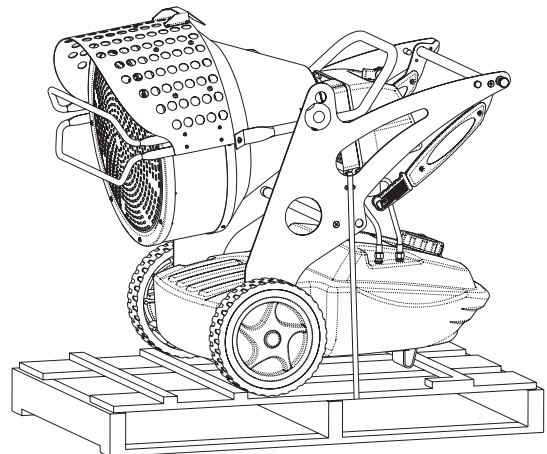

Fig.2 XL9 pe palet
- Remove the supports that hold the generator to the pallet (Fig. 2).
- Firmly anchor the generator to the pallet (Fig. 2).
- Store the machine in a suitable, dry place and do not stack more than two. Despatch the generator preferably as shown Fig. 1 or at least as shown in Fig. 2.
Depozitati incalzitorul intr-un loc adecvat, uscat si nu suprapuneti mai mult de doua. Amplasati incalzitorul ca in Fig1 (de preferat) sau in cel mai rau caz ca in Fig2